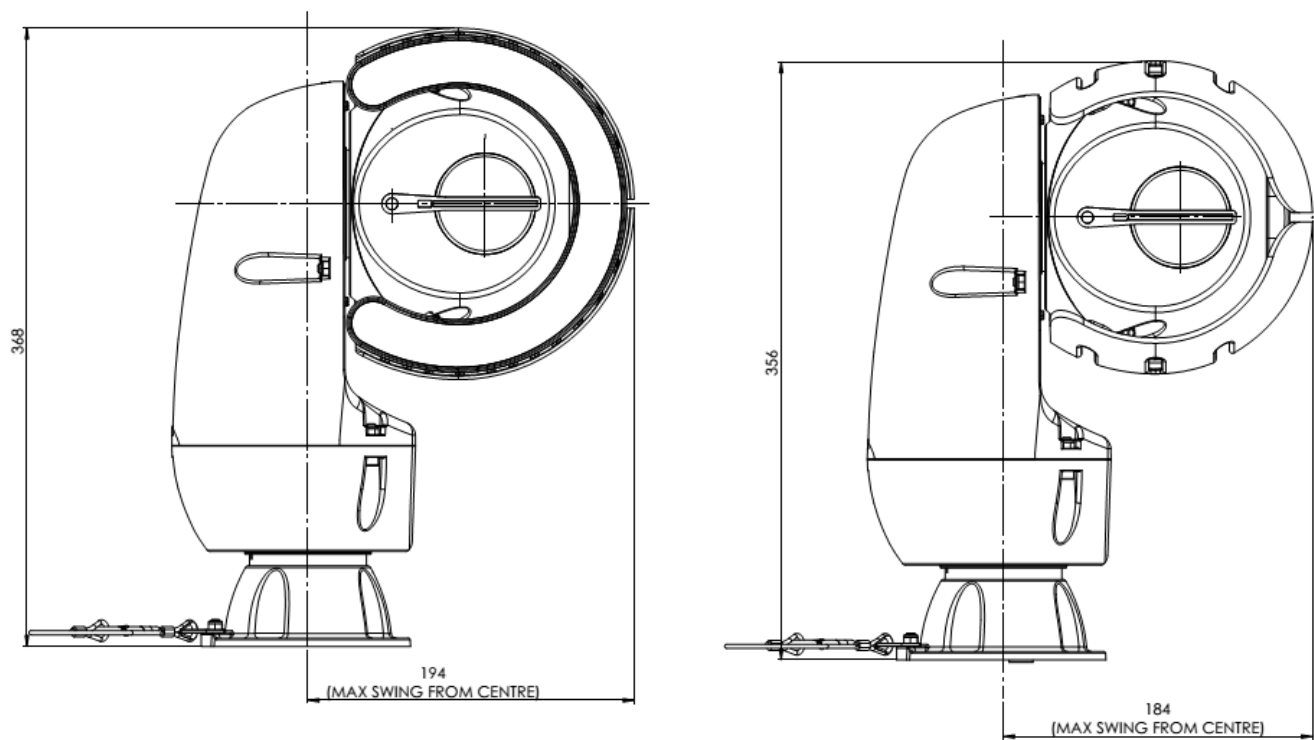

Figure 15 PTZ Unit showing space required for movement (Unit with LED Illuminator on the Left)
3. Sufficient space should be allowed around the camera so that it is free to rotate through its full movement in all directions. See figure 15.